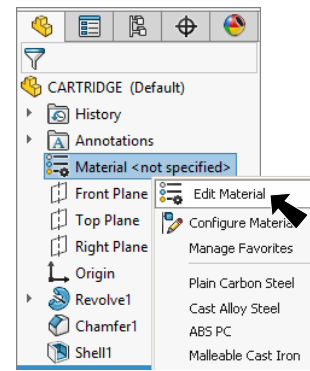

Fig. 15
Step 1. Right click **Material** in the Feature Manager and click **Edit Material**, Fig. 15.